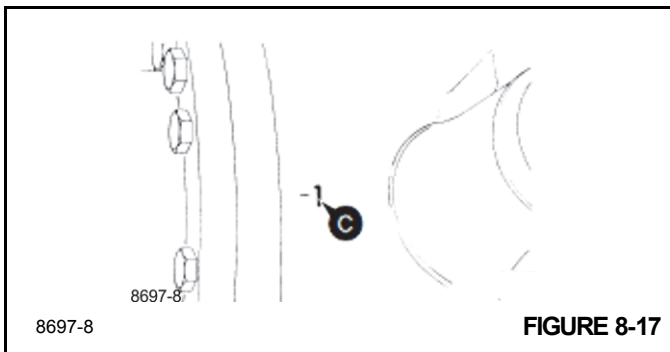

FIGURE 8-17
- Obtain the deviation figure **C** (Figure 8-17) (e.g. - 1) stamped on the differential housing bolt flange. If negative, add to bearing depth; if positive, subtract from bearing depth.